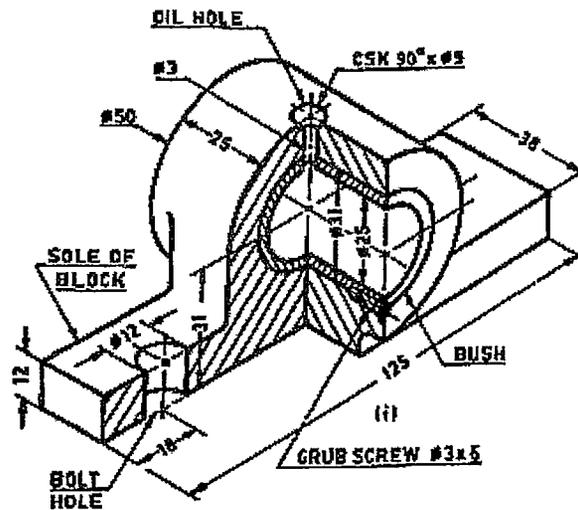

Figure 3
- (b) An isometric view of a bushed bearing is shown in Figure 3. Draw 13 L3 3 1